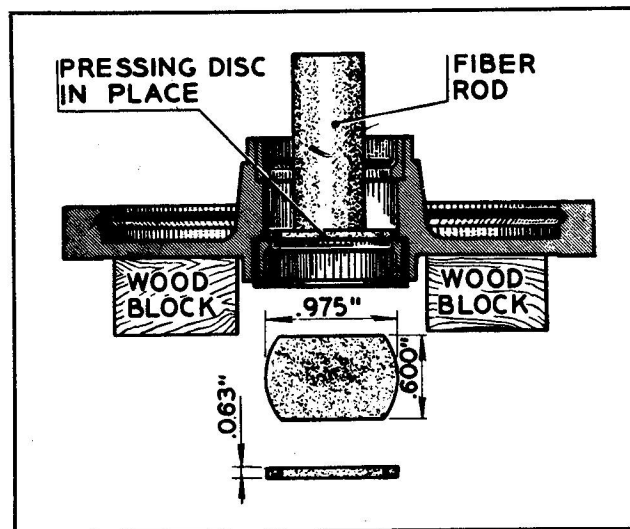

Figure 6—Removing Ball Bearing Outside Race from Distributor Gear Hub
(1) Remove the distributor cylinder after prying out the lock ring with a small screw driver.
(2) Remove the cup from the end of the large distributor gear hub. Unscrew the lock nuts on the end of the distributor gear axle and lift off the distributor gear. **DO NOT** loosen the two screws which secure the distributor gear axle to the front end plate unless the axle is damaged and must be replaced. This will maintain the original adjustment for the gears. The top ball and cage assembly and the spacer with the shim washers will come out as loose parts when the distributor gear is lifted from the axle. Make sure that the same spacer and shim washers are used when reassembling as this will give, in the majority of cases, the correct adjustment between the axle and gear.
(3) If the bearings of the distributor gear axle need replacement, the outside race for the bearing which came out as a loose part and, also, the complete bearing and retainer at the other end of the gear hub, must be pressed out. To facilitate this, it is suggested that a small pressing disc of the size and shape shown in figure 6 be used. This disc can be placed inside of the gear hub with its flat face in contact with each outer race as indicated.